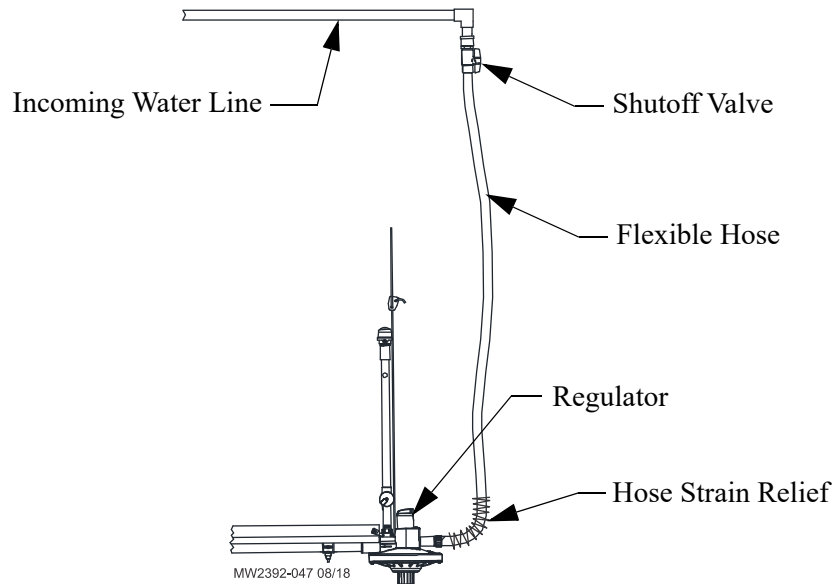

Figure 36. Incoming Water System
1. Install the Water shut-offs in the ceiling. Do not install the shut-offs at the Regulator. Installing the Shut-offs at the regulator adds to much weight at the regulator location. See **Figure 36** below.